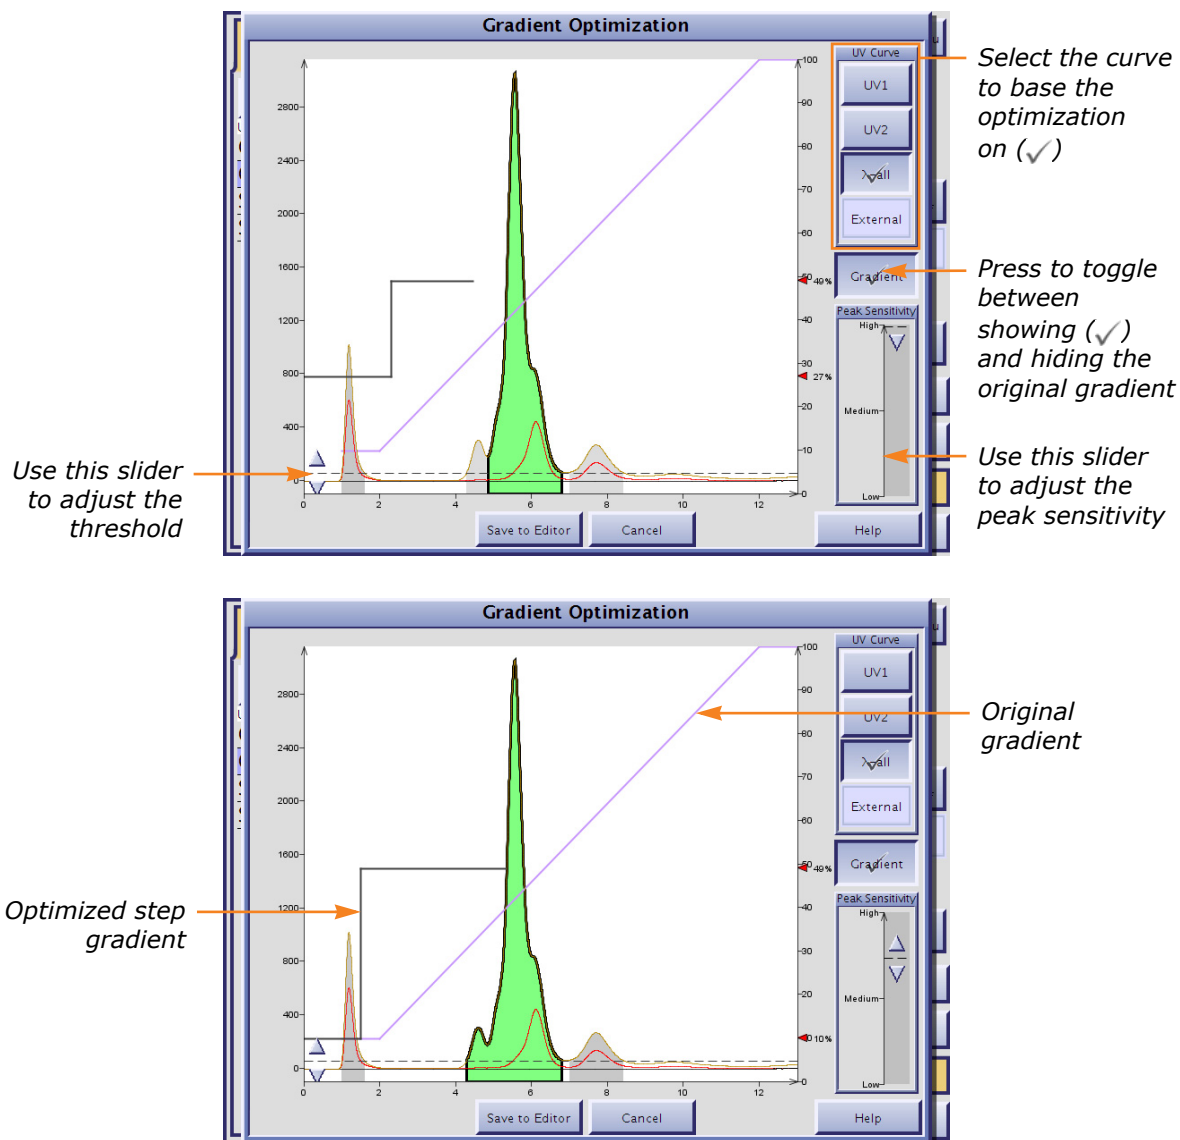

Figure 4-10. Gradient Optimization Dialog
4. To show the actual peaks, adjust the peak sensitivity and/or the threshold using the sliders (see Figure 4-10).